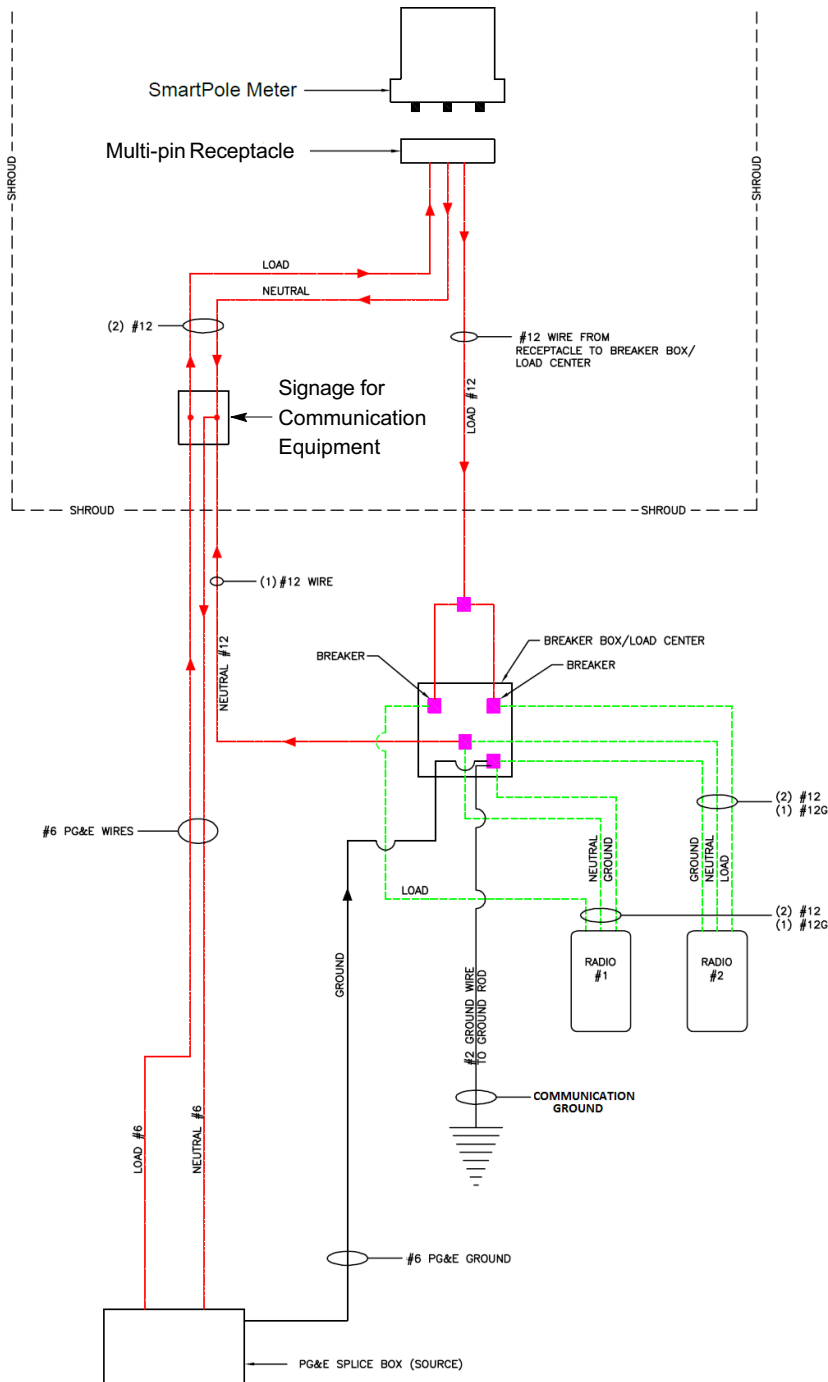

Figure 2
17. The switch must not de-energize (turn off) the PG&E Smart Meter. See the Single Line Drawing in Figure 2 on Page 8.